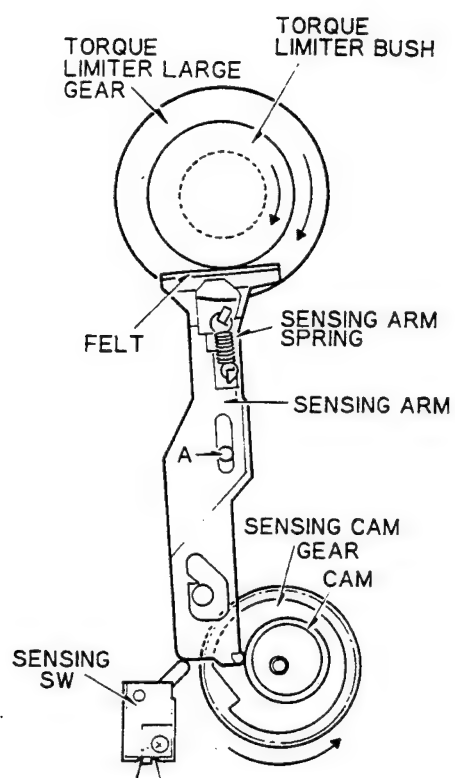

Fig. 10
- (1) Sensing arm (felt) and torque limiter bush are held together by means of a sensing arm spring. The felt slides with the torque limiter bush side to keep Point A as a fulcrum at all times while the sensing arm moves along a cam of sensing cam gear because the arm tries to turn counterclockwise. (Fig. 10)